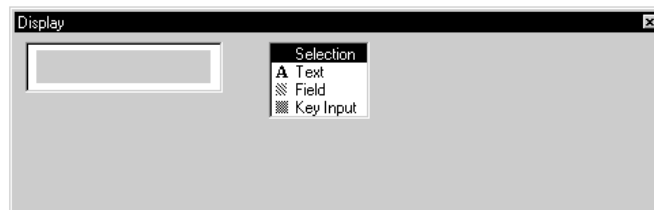

Figure 4-62 Display Window
35. The **Display** window opens (Figure 4-62).